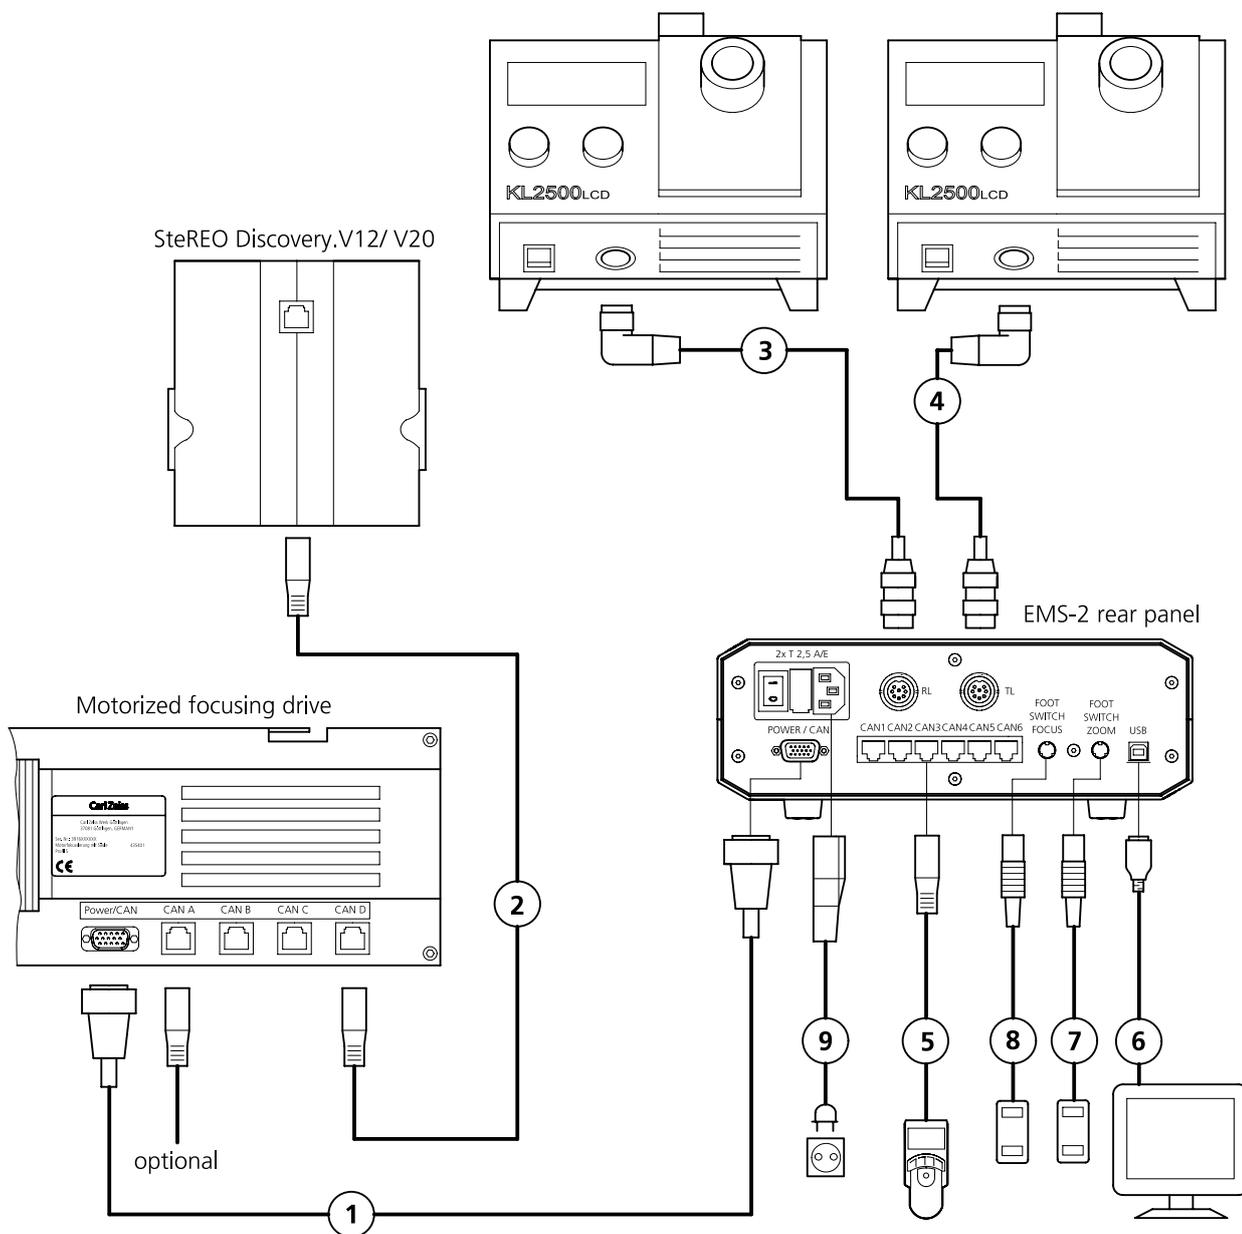

Fig. 27 Connecting the SteREO microscope
- Connect the Power/CAN bus cable (Fig. 27/1) to the rear side of the focusing drive **Power-CAN** and secure it in place with two screws.
- Zoom drive of microscope body (Fig. 27/2)
- Other moving CAN bus cables (Fig. 27/optional), such as that for objective nosepiece.
- Connect the following devices to the rear panel of the EMS-2 Electronic Module (Fig. 27):
- Power/CAN bus cable (Fig. 27/1), which should be secured with two screw
- SYCOP (Fig. 27/5) to a freely selectable CAN bus connector **CAN 1** to **CAN 5**
- Control cable of cold-light source for incident light to connector **RL** (Fig. 27/3)
- Control cable of the cold-light source for transmitted light to connector **TL** (Fig. 27/4)
- Foot pedal for focus control (Fig. 27/8), if used
- Foot pedal for zoom control (Fig. 27/7), if used
- Power cable (Fig. 27/9) to be connected to EMS-2 and power outlet.
A PC may be connected to the USB port (Fig. 27/6) of the EMS-2 Electronic Module. For more information, refer to the corresponding software description.
- Connect the control cable for incident light coming from connector **RL** of the electronic module (Fig. 27/3) to the KL 2500 LCD cold-light source.
- Connect the control cable for transmitted light coming from connector **TL** on the electronic module (Fig. 27/4) to the second KL 2500 LCD cold-light source.